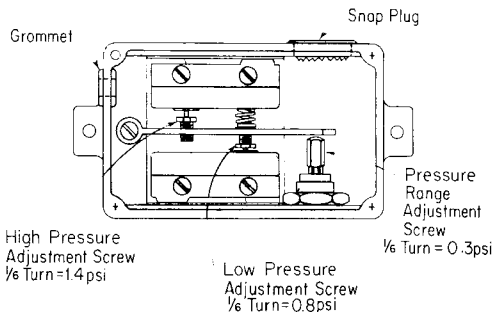

Fig. 3—High-Low Pressure Alarm Switch
3.05 The pressure range adjustment screw (Fig. 3) may be used to change the pressure range. For a higher pressure range turn the range adjustment screw clockwise and for a lower pressure range turn counterclockwise.